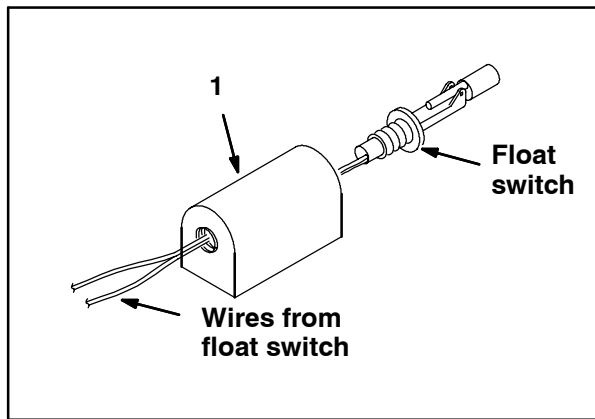

FIG. 5
3. Route the float switch wires through the hole in the float switch protector bracket (1). Refer to Fig. 5.